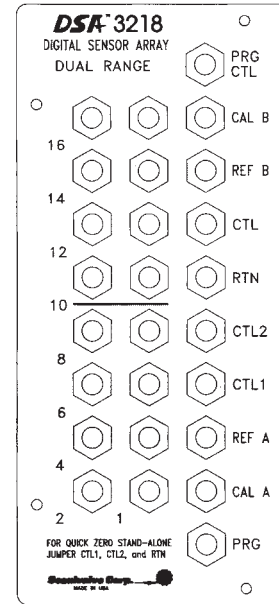

FIGURE 2.9 - DSA3218/16Px DUAL RANGE TOP PANEL
The DSA3218/16Px module is available as a dual-range module, offering eight (8) channels of one pressure range and eight (8) channels of a different pressure range. Like a standard DSA3218, each group of eight (8) transducers share a common calibration valve and a common reference manifold. However, in dual range modules the reference manifolds and the calibration valves are not tied together and separate reference and calibration ports are provided on the top of the module. They are labeled CAL A, CAL B, REF A and REF B. Figure 2.9 depicts the top panel of a dual range DSA3218/16Px module.